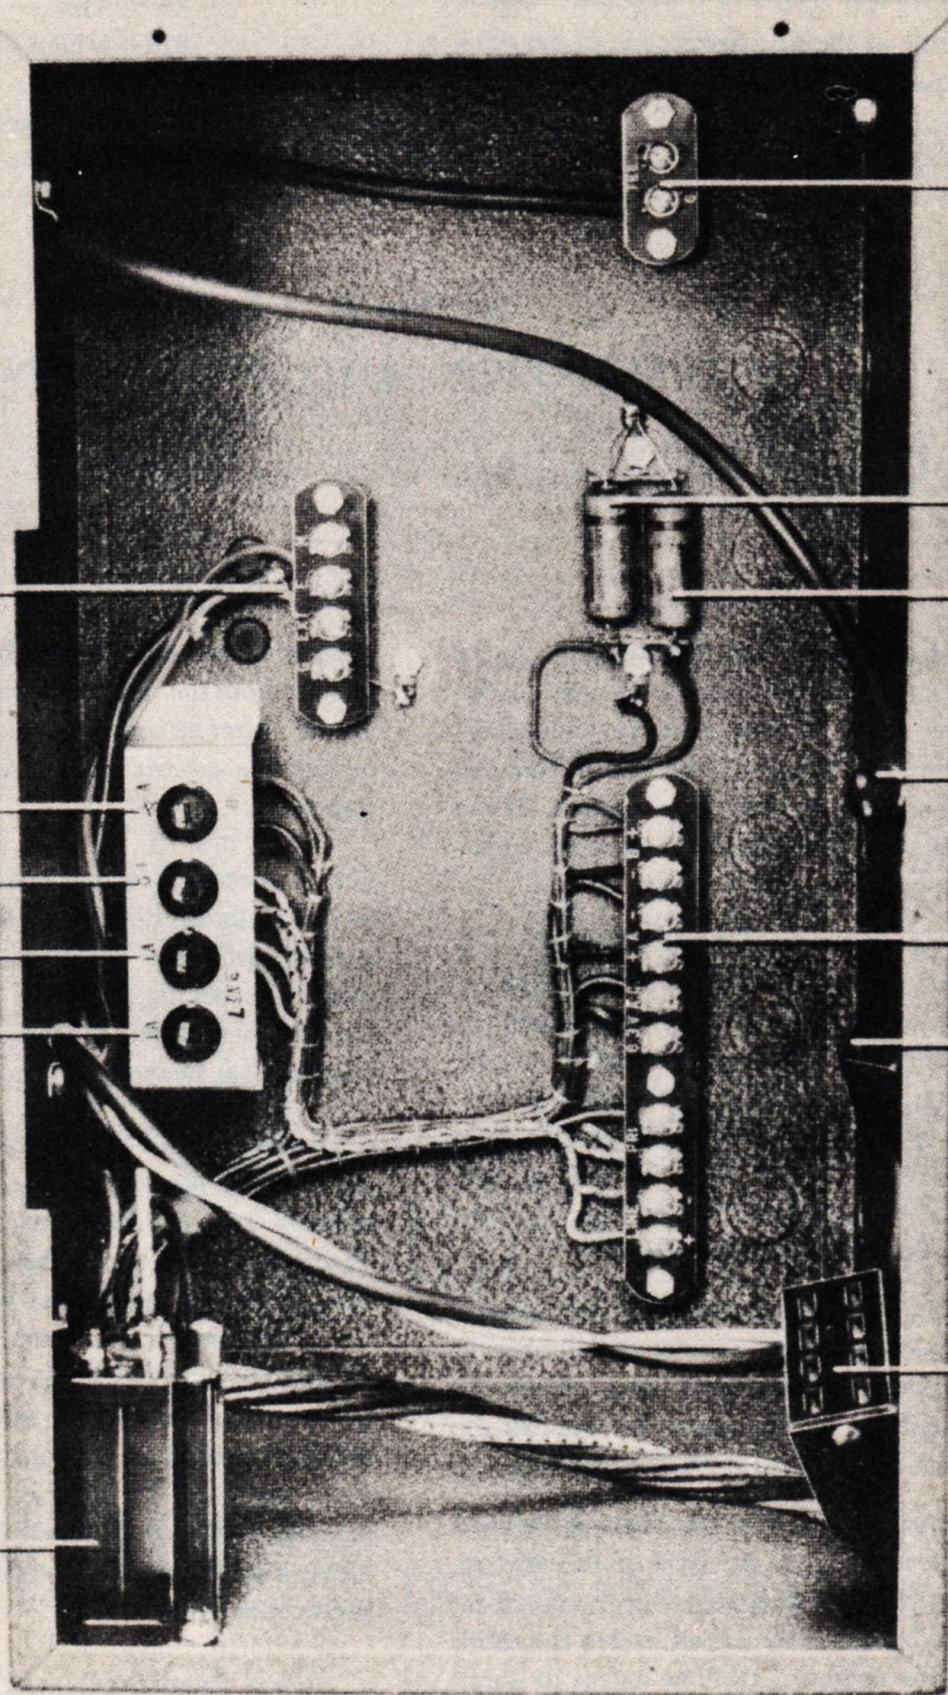

Figure 3—Radio Receiver 128-AY, Cabinet Interior.
c. Antenna and Ground Connections.—Two holes are provided in the rear of the cabinet above the antenna terminal board (TB2) for antenna and ground leads. (See figure 3.) Connect the main antenna to the terminal marked M and the ground wire to the terminal marked G. If an emergency antenna is to be used, connect it to the terminal marked E. In the event that the receiver is to be used in conjunction with a high frequency receiver, the high frequency antenna may be used as the emergency antenna. To do this, connect the high frequency antenna directly to terminal E and run an extension lead to the antenna post of the high frequency receiver from the terminal marked EXT.
d. Power Connections.—(1) Knockout holes are provided in the rear and bottom of the receiver cabinet for power, battery, and phone cables. To obtain the holes desired, knock out the plugs with a large screw driver and hammer. The holes are 7/8 inch in diameter and are suitable for connecting 1/2 inch pipe or armored cable.
(2) The line voltage should be within the range of 95 to 130 volts. For higher or lower a-c line voltages, it is recommended that an externally mounted step-down or step-up transformer be used. If one side of the line is grounded, an auto transformer will be satisfactory; otherwise the transformer should have two separate windings. This latter type of transformer will also satisfy the two-winding transformer requirements described in the preceding paragraph.
(3) If batteries are to be used as an emergency source of power, connect a 6-volt storage battery to the A terminals on the terminal board (TB1) and a 90-volt battery to the B terminals. (See figure 3.) Care must be taken to connect the positive lead to the positive terminal and the negative lead to the negative terminal in both cases.
(4) In some installations, the a-c supply may have poor wave form and will introduce appreciable hum into the output of the receiver. To reduce this hum, connect first one and then the other of the terminals marked 6.3 V. AC to the cabinet, listening to determine which produces the more quiet operation. The proper terminal can then be permanently connected to the cabinet by connecting a wire between this terminal and the ground lug directly below the terminal marked G on terminal board (TB2).